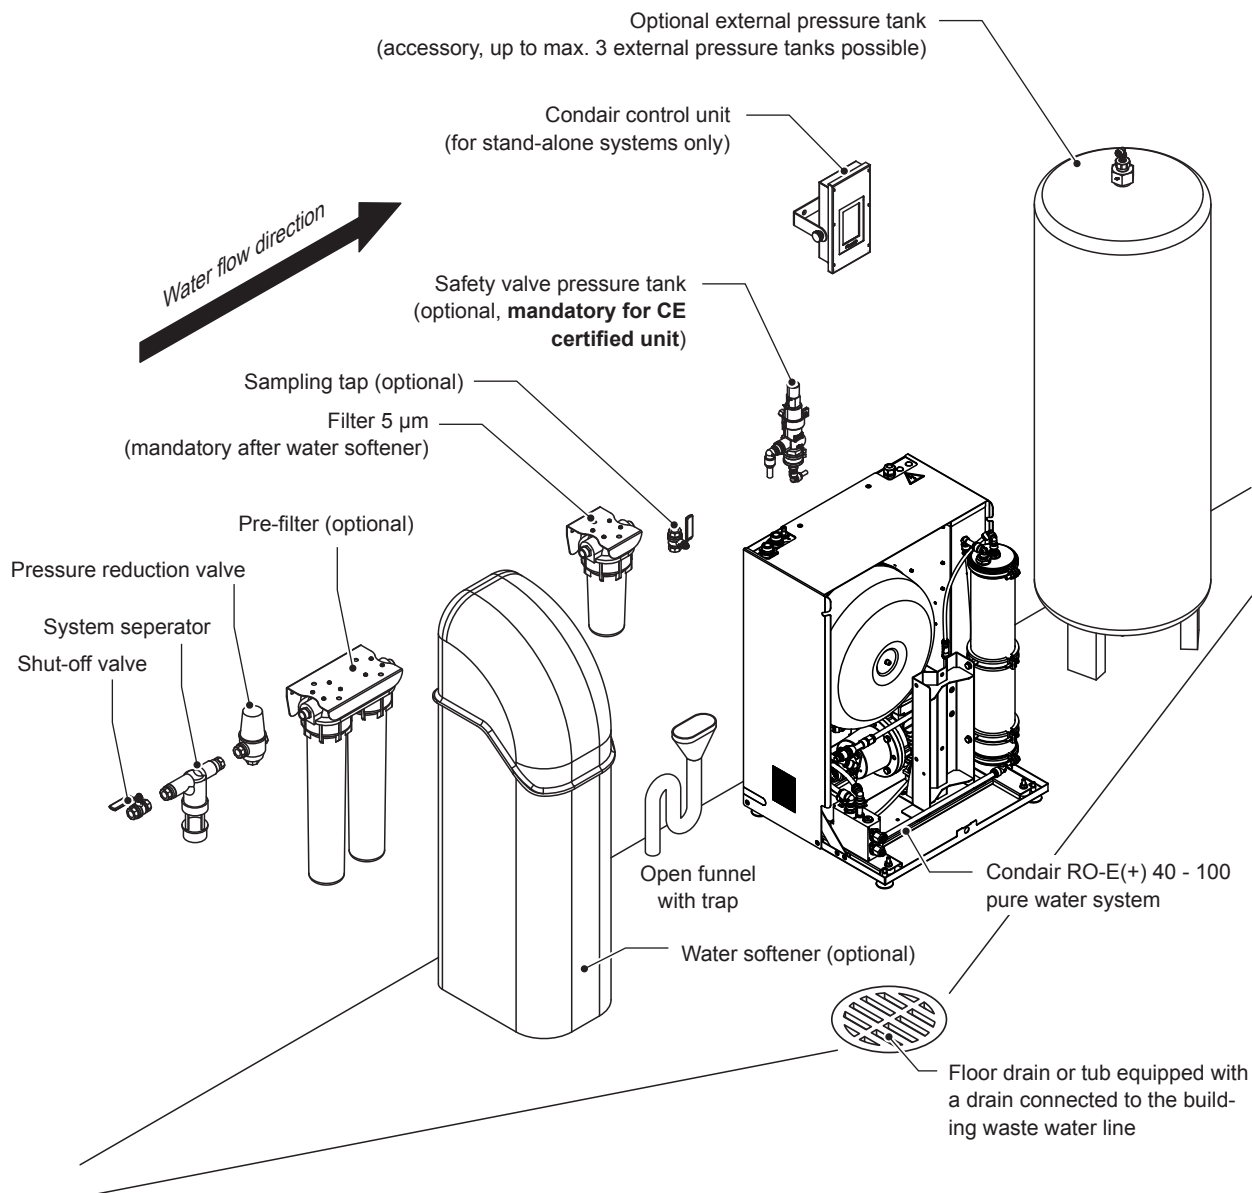
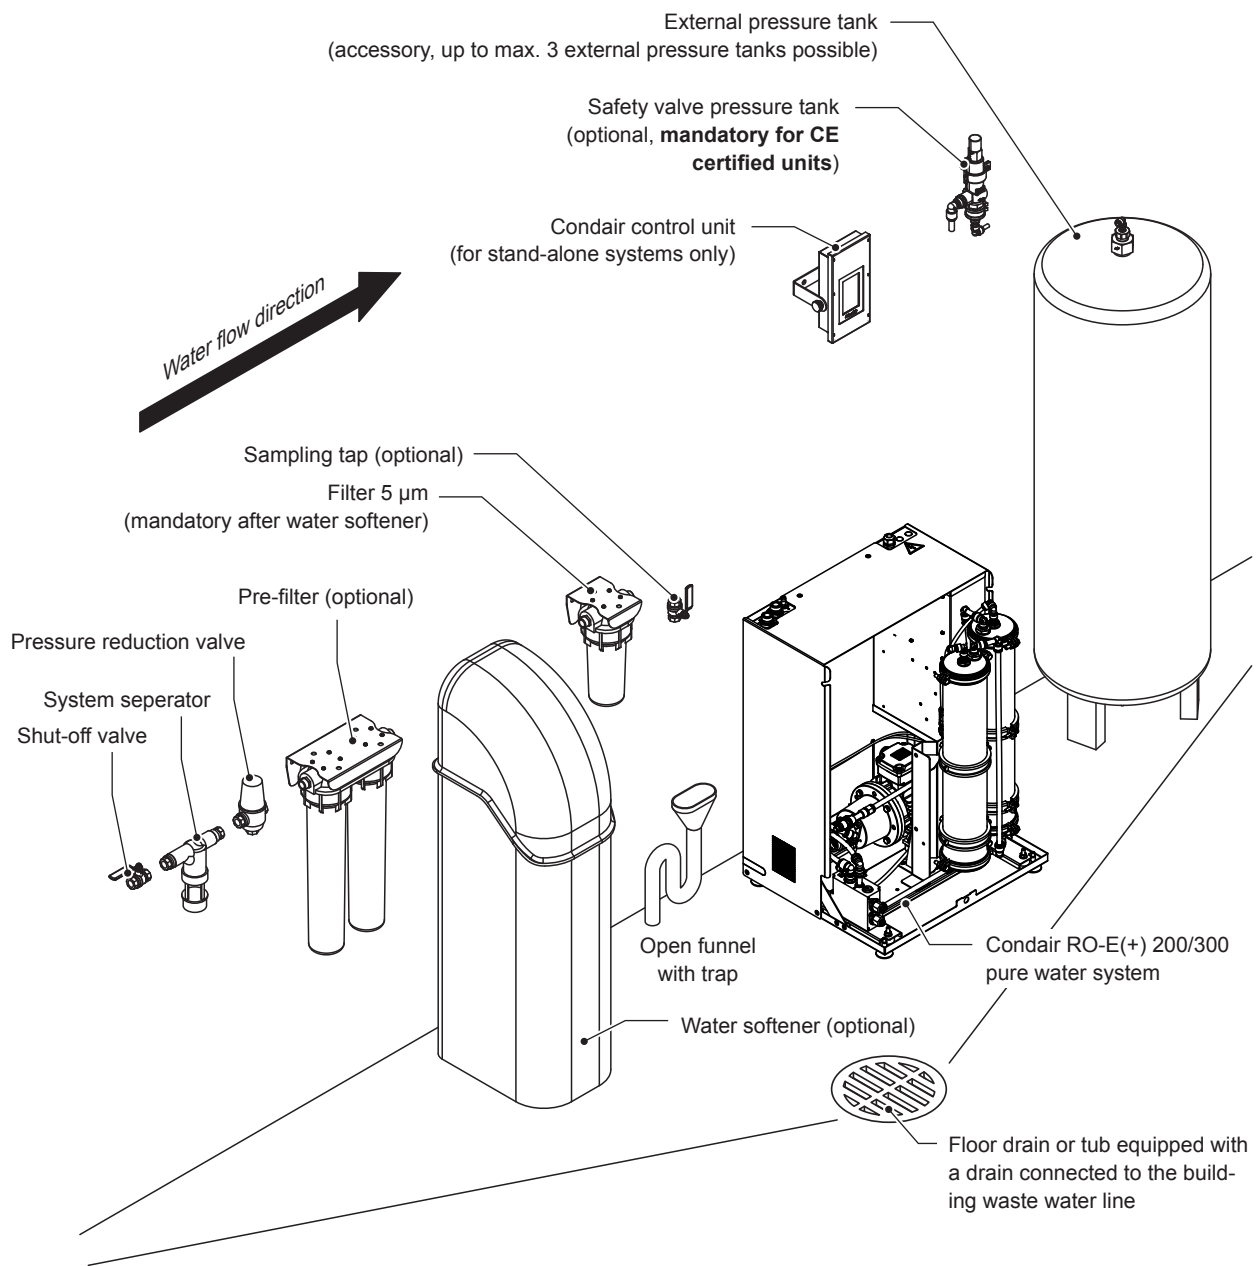

Fig. 4: Positioning of the system components for Condair RO-E(+) 40 - 100 pure water systems with or without optional external pressure tank
Fig. 5: Positioning of the system components for Condair RO-E(+) 200 - 300 pure water systems with external pressure tank
- The components upstream of the Condair RO-E(+) pure water system (shut-off valve up to and including test cock) must be installed in the sequence shown in Fig. 4 and Fig. 5.
approx. 150 mm above the unit (left of the centre of the unit), see Fig. 4
approx. 150 mm above the (first) external pressure tank, see Fig. 5